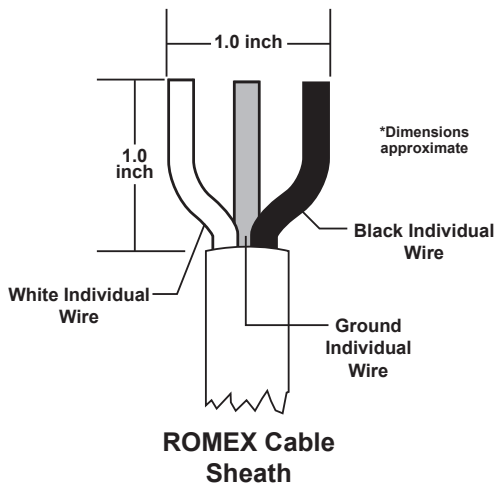

Figure 41
3. Hold the clear cover with the bottom facing upward; reference Figure 41.
4. Lay each wire into its corresponding locator slot; reference Figure 41.